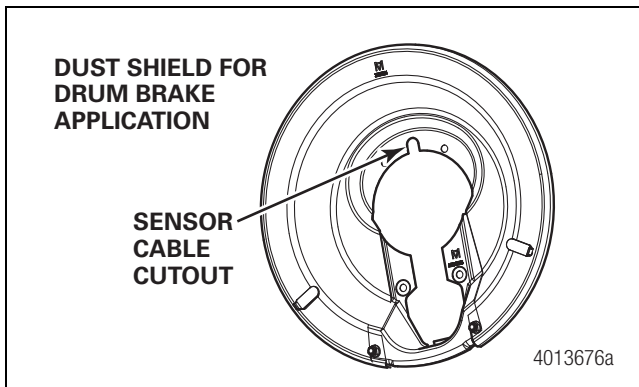

Figure 12.18
- Meritor current production two-piece dust shields for cam brakes are designed to be used either with or without ABS equipment. Each dust shield section contains a hole for passing an ABS wire. Figure 12.18.